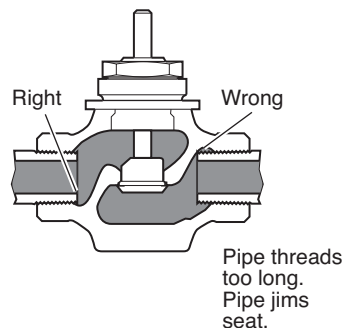
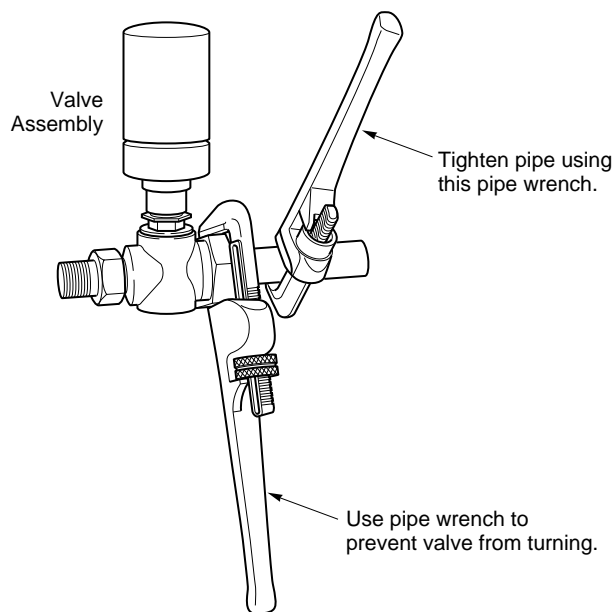

Figure-3 Normal Thread Engagement.
Figure-4 Installation of Screwed End Valves.
3. Use a pipe wrench to fully tighten the valve to the pipe. Do not over tighten or strip threads. See Table-7 and Figure-3 for the normal engagement length of the threads. Figure-4 shows a means of tightening the pipe so that the valve is not twisted or crushed.